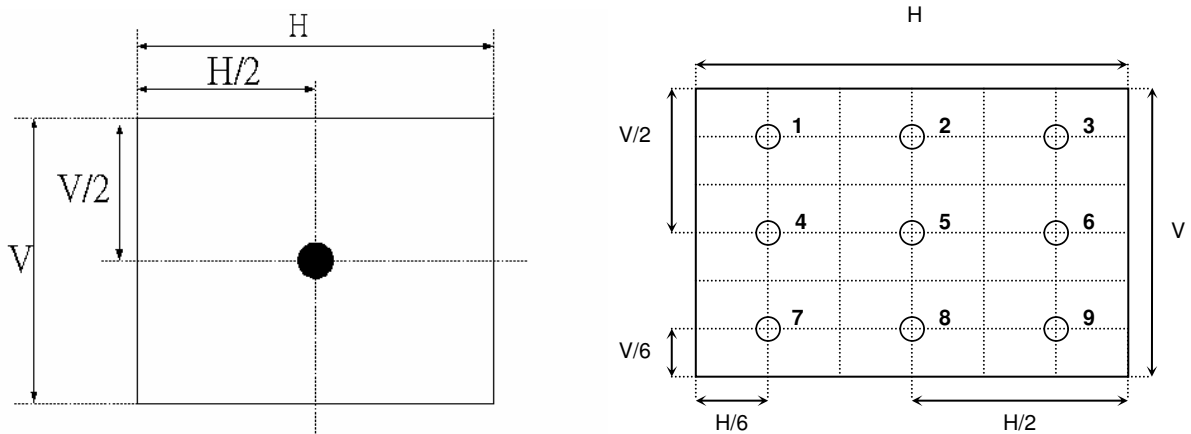

Fig.4-2 Optical measurement point
2. Surface Luminance is luminance value at point 5 across the LCD surface 50cm from the surface with all pixels displaying white. For more information see Fig. 4-2. When lamp current $I_L = 6.0\text{mA}$, $L_{WH} = L_{on5}$, where L_{on5} is the luminance with all pixels displaying white at center 5 location.